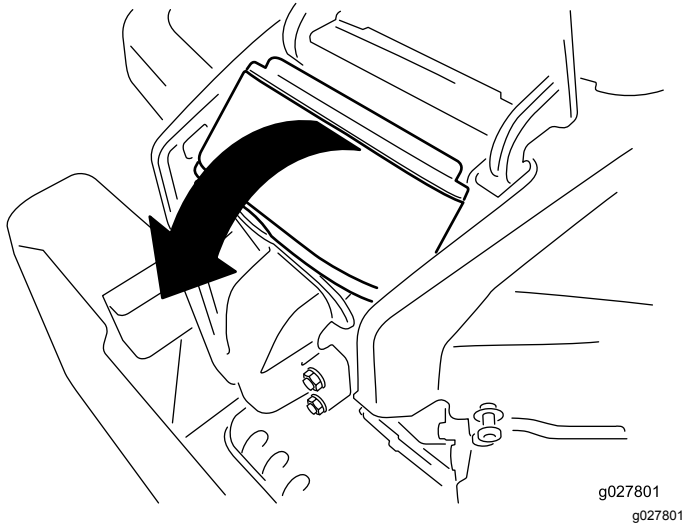

Figure 30
4. Lift the cover and rotate the air-cleaner assembly out of the engine (Figure 30).